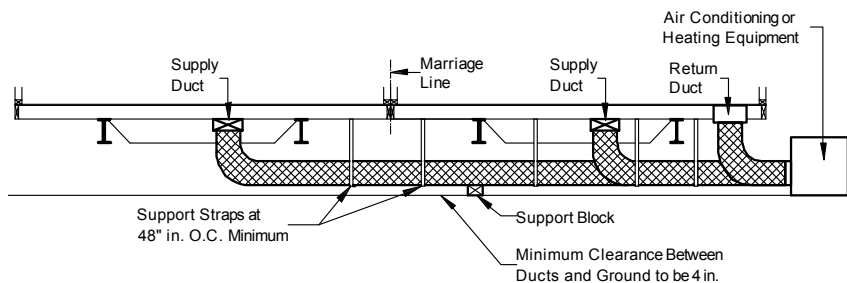

Figure 98. Ducts connecting exterior heating and/or cooling equipment to the home
2. **Install ducts.** Install the appropriate supply and return ducts (not provided) between the remote unit and the home (**Figure 98**), making connections according to the instructions for crossover ducts in **Crossover Connections** (p. 53).
Prepare the whole-house ventilation system according to the ventilation system manufacturer's instructions. Confirm that any fresh air intake ducts extend to the exterior and do not draw air from the crawlspace under the home. Do not allow any fresh air ventilation intake ducts to become kinked or restricted, forming a trap (**Figure 98**).